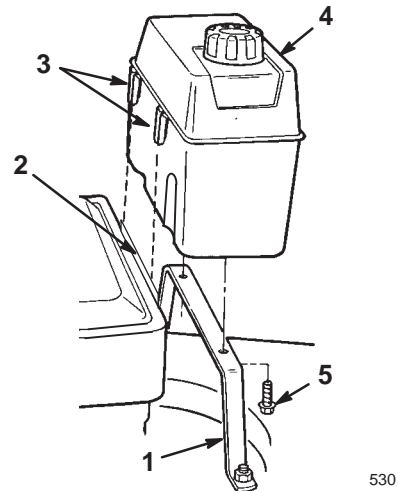

Figure 2
1. Start the two self-tapping screws into the bottom of the fuel tank and then remove the screws (Fig. 2).
2. Hook the plastic clips on the front of the fuel tank onto the fuel tank bracket (Fig. 2).
3. Secure the fuel tank to the tank base with the two self-tapping screws (Fig. 2). **Do not overtighten the screws.**